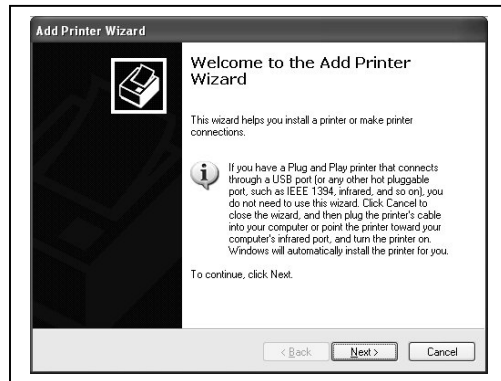

fig 1
5. Locate an empty PCI slot, as seen in **(fig.1)**.
**(fig. 1)**
3. Click *Next* (**fig. 1**).
1. After installation of the Director EC software go to “c:\cdDirector\ODBC FoxPro Driver” folder. **(fig. 1)**
7. Go to “System Setup” tab and select system drives “D and E” (**fig. 1**)
(fig. 1)
3. Type in “**regedit**” then click **OK (fig.1)**
2. Click on **setup.exe** of the alignment utility and Click **OK** (**fig. 1**).
3. The “Welcome to the Add Printer Wizard” window will appear (**fig 1**). Click Next.
1. From your Start Menu Open the *EC Alignment Utility* (**fig. 1**). It will be located in the folder designated when you installed the alignment utility. Choose COM Port 2, which the Director EC Loader is installed. Select all other printer types and **drive bay**. Click on *Perform Test*.
(fig 1)
1. From your Start Menu Open the *EC Alignment Utility* (fig. 1). It will be located in the folder designated when you installed the alignment utility. Choose corresponding COM Port connected to the Spectrum 2 printer. Select all other printer types and **drive bay**. Click on *Perform Test*.